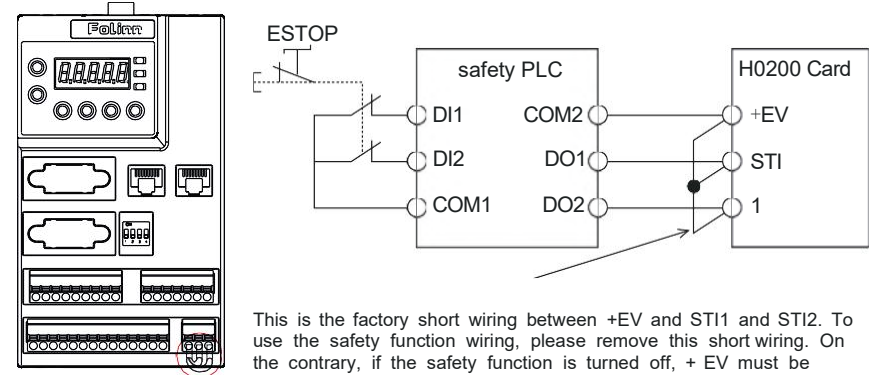

Figure 1
A. The internal circuit diagram of the safety control loop is shown in Figure 1 below.
- (1) Remove the +EV, ST11, and ST12 short wires.